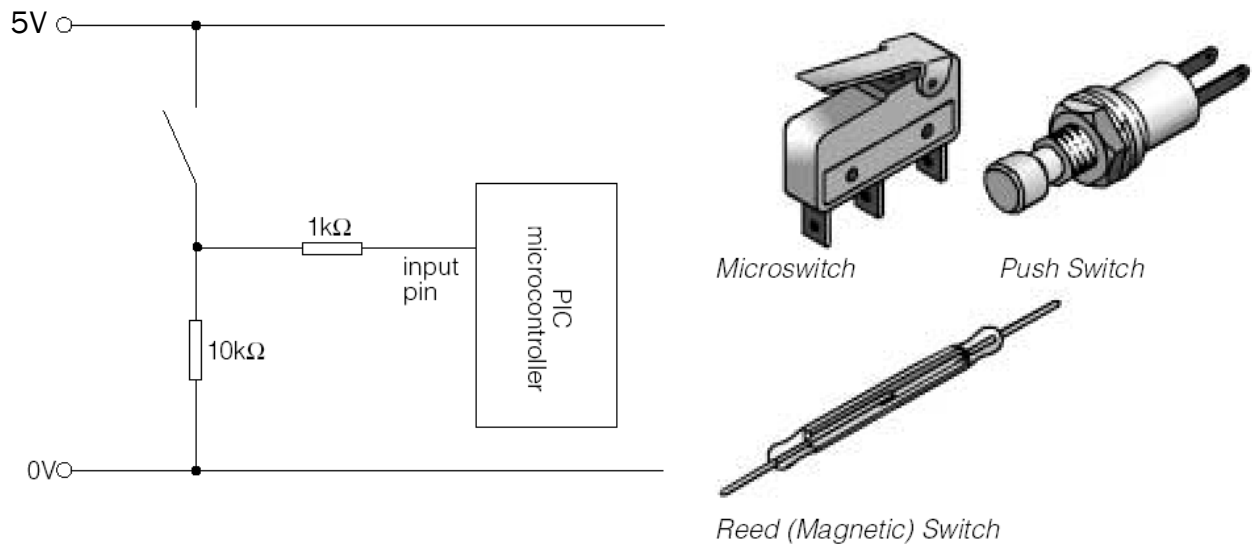

Fig 5.1 Connection of a switch
The most-commonly used digital sensor is a switch, such as a microswitch, push switch or reed (magnetic) switch. All of these devices have two contacts which are either open (0) or closed (1). Fig 5.1 shows how to connect a digital sensor such as a switch to a PIC microcontroller